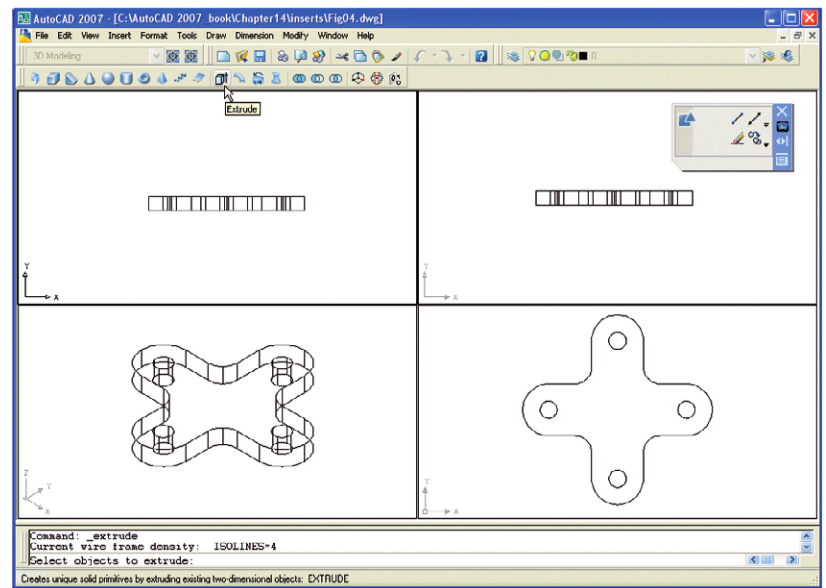

Fig. 14.6 The four views after using the **Extrude** and **Subtract** tools
6. With the **Subtract** tool from the **Solids Editing** toolbar, subtract the holes from the plate (Fig. 14.6).